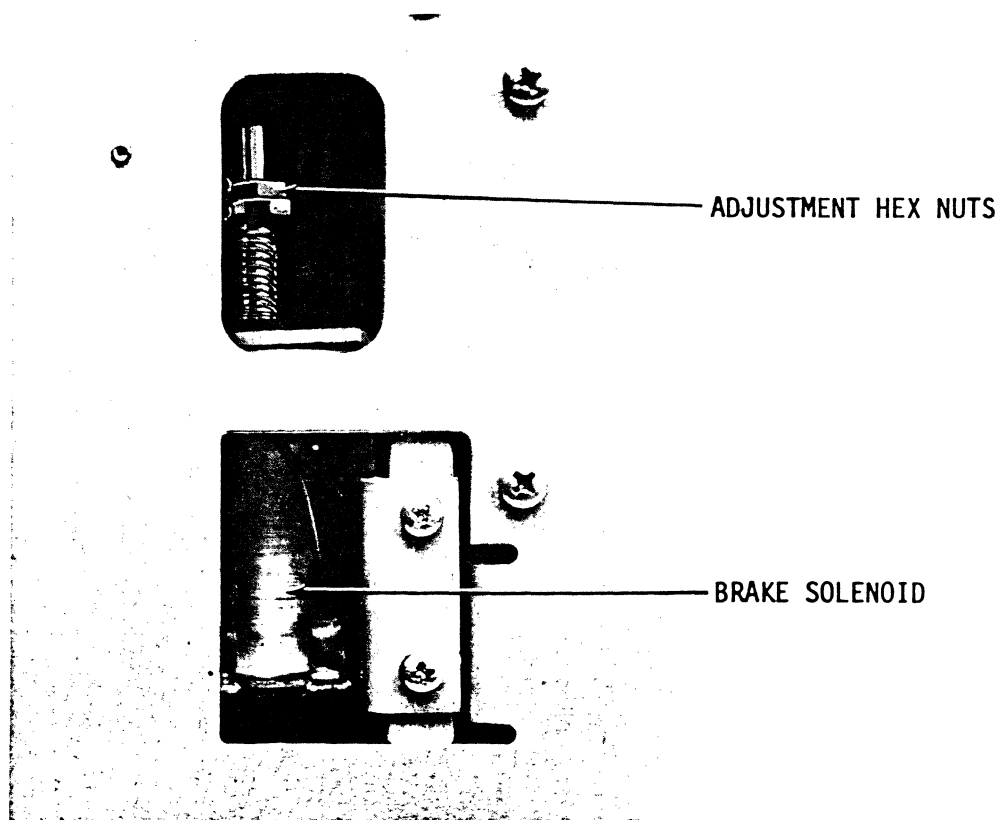

Figure 5-24
- b) With end wrenches loosen nuts on solenoid shaft through opening in power supply mounting plate as shown in Fig. 5-24.